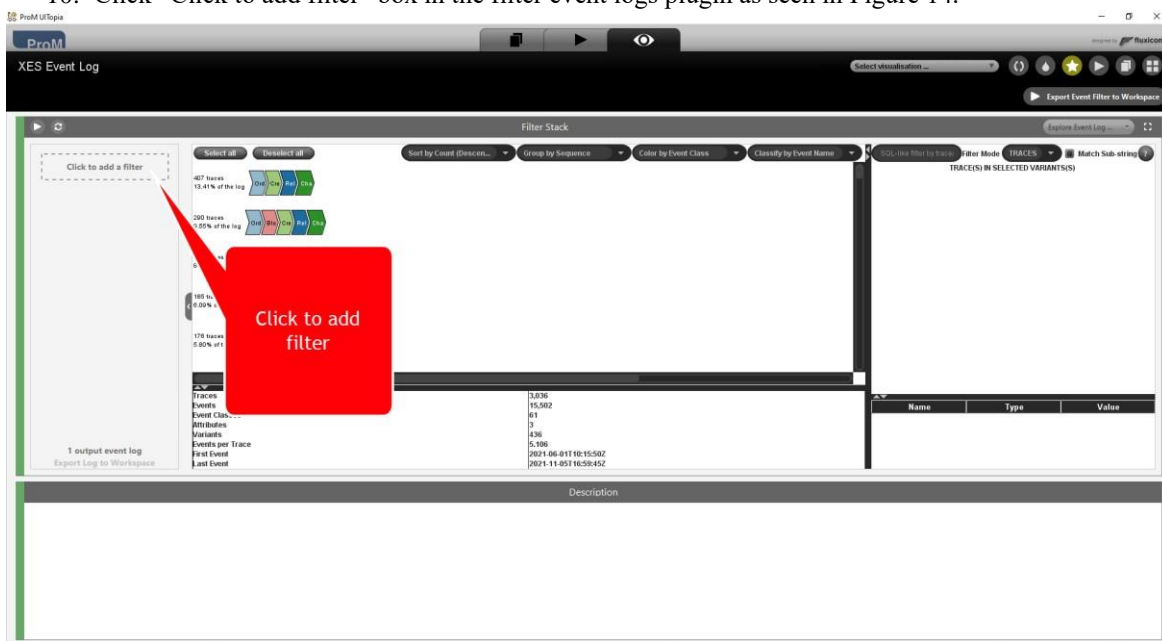

Figure 14 – Image showing how to add filter to event logs.
10. Click “Click to add filter” box in the filter event logs plugin as seen in Figure 14.